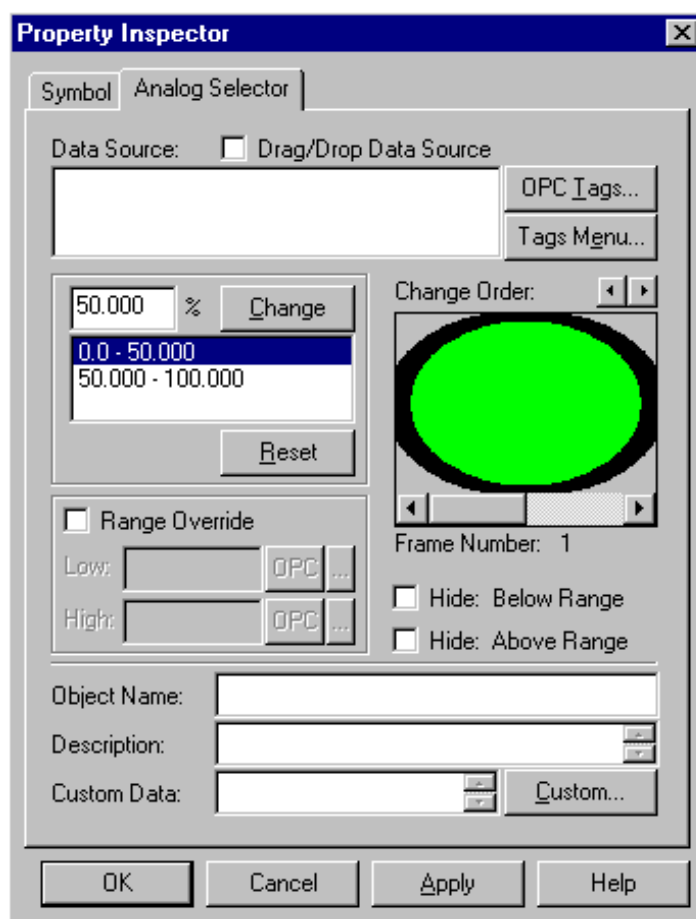

Figure 11-12: Property Inspector Dialog Box – Analog Selector Tab
2. On the Dynamics menu, select Selectors > Analog Selector. The Property Inspector dialog box appears with the Analog Selector tab (Figure 11-12).